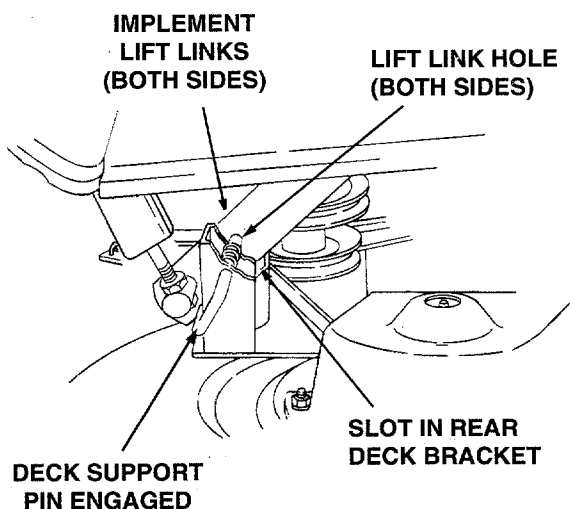

Figure 52
7. Carefully guide the tractor implement lift links (left and right) into the rear deck bracket slots (left and right) as the tractor implement lift handle is lowered to its lowest setting (Refer to Figure 52).
8. Pull both deck support pins outward and rotate rearward to disengage the outer surface of the rear deck brackets. Release the pins, making certain each deck support pin passes through the inner hole of the rear deck bracket. The spring tension will push the pins inward and, if aligned, through the hole in each implement lift link (Refer to Figure 52).